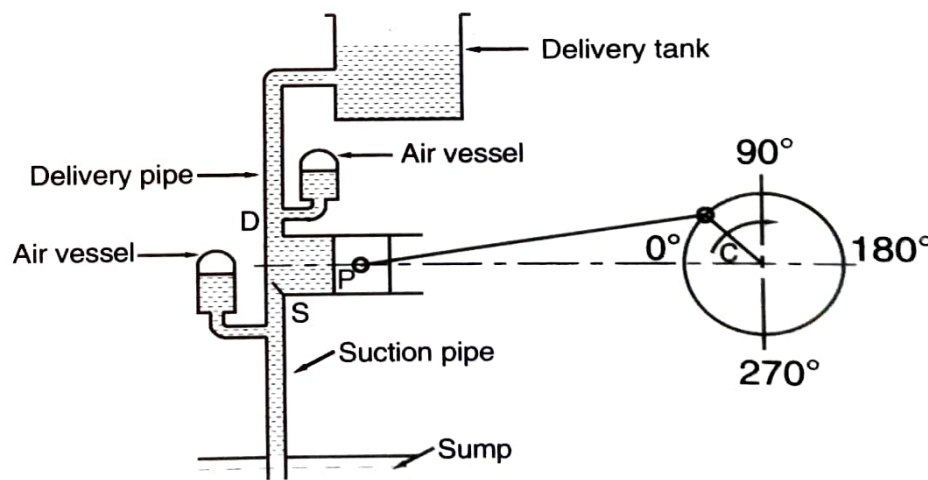

Fig. 9.8 Single acting reciprocating pump
- (1) **Piston** is the component, which reciprocates inside the cylinder.
- (2) The **suction pipe** is a connecting passage between the source of fluid and the cylinder. It contains a hinged suction valve.
- (3) The fluid is discharged into the **delivery pipe** through delivery valve.
- (4) **Air Vessel (Air Chamber) :** For a single acting pump, the flow in the delivery pipe as well as suction pipe is not continuous (Refer Fig. 9.8). For double acting or multi-cylinder pump, the flow is continuous but still velocity vary in suction as well as delivery pipe.
To obtain continuous supply of flow and uniform velocity in pipes, a large air vessel is fitted to suction as well as delivery pipe, at a point very close to cylinder (as shown in Fig. 9.8). This vessel (chamber) has an opening at its base through which, the liquid may flow into or out of it. It contains compressed air at top, which will be compressed further when the liquid enters and expands when the liquid flows out.